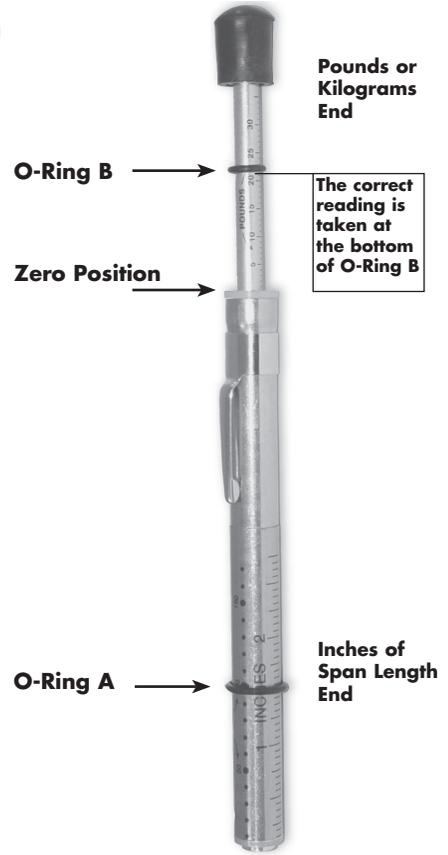

Figure 1
2. Tool Preparation (figure 1)
IMPORTANT - The correct reading is taken at the bottom edge of O-Ring B. (figure 1)